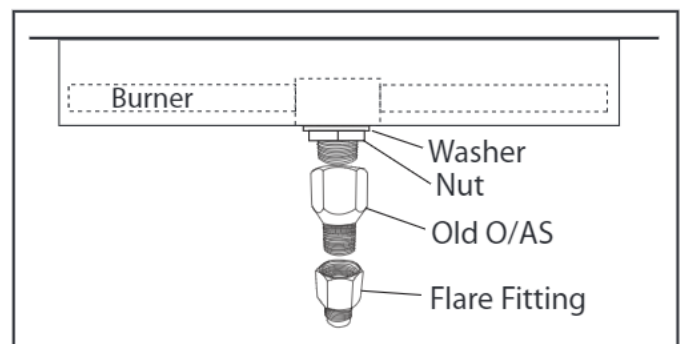

Fig. 2 Installing new Natural gas orifice
11. Install the 1/2" NPT Female to Male flared to the new OAS-NG# (See figure 2).